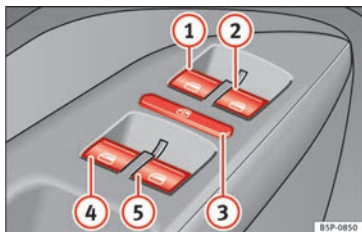

Fig. 55 Detail of the driver door: controls for the front and rear windows.
The buttons » Fig. 55 ① and ② have two levels for opening the window and two for closing it. This makes it easier to open and close windows to the desired position.